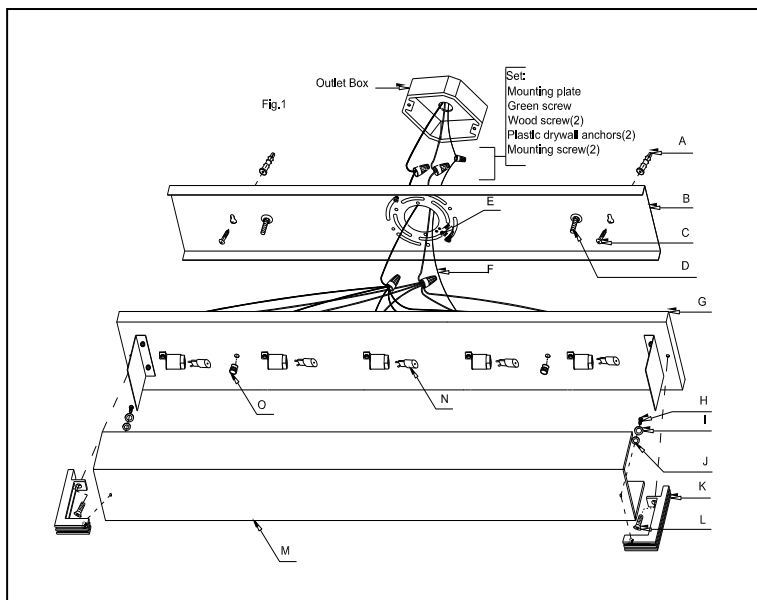

Fig .2
### CONNECTING THE WIRES (Fig.2)
6. At this point, connect the electrical wires as shown in Fig. 2, making sure that all wire connectors are secured. If your outlet box has a ground wire (green or bare copper), connect the fixture's Ground Wire to it. Otherwise, connect the fixture's Ground Wire directly to the mounting plate using the Green Screw provided. After wires are connected, tuck them carefully inside the Junction Box.